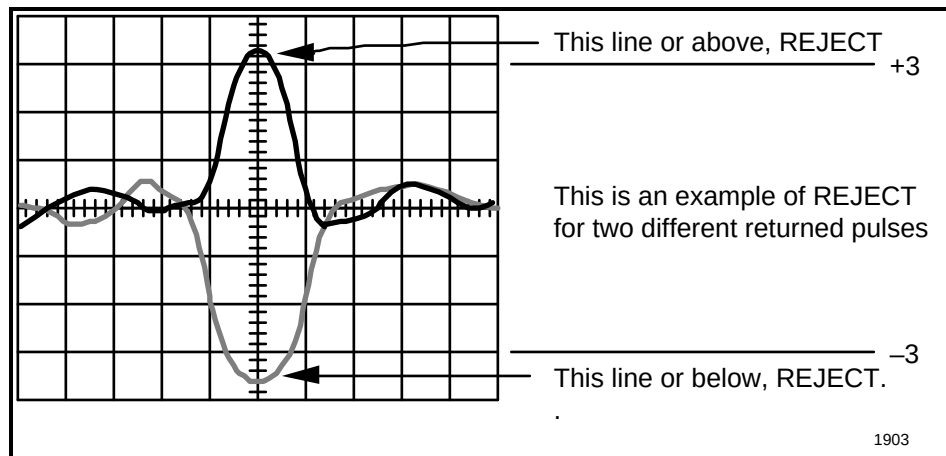
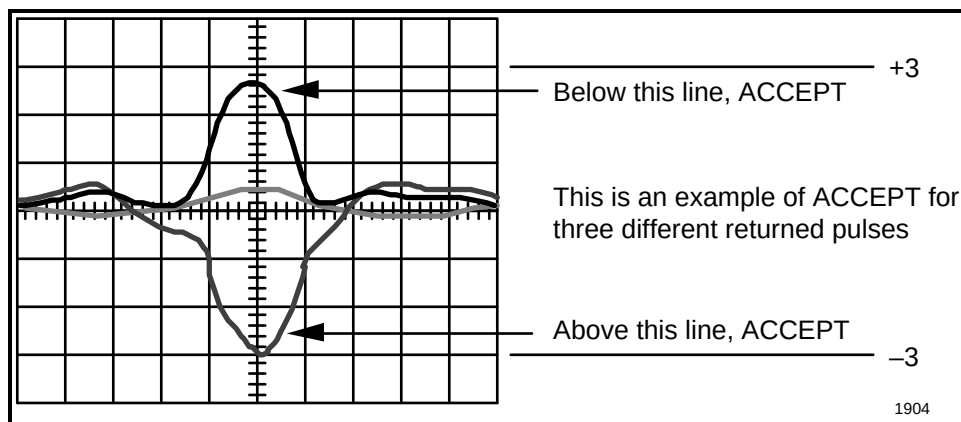

Figure C-10
Figure C-11
11. If any part of the return pulse (the same width as the unterminated pulse) is three or more divisions from the base line (in either direction), the COAX is REJECTED, as in Figure C-10. If the return pulse is less than + or - three divisions, the COAX is ACCEPTED, as in Figure C-11.